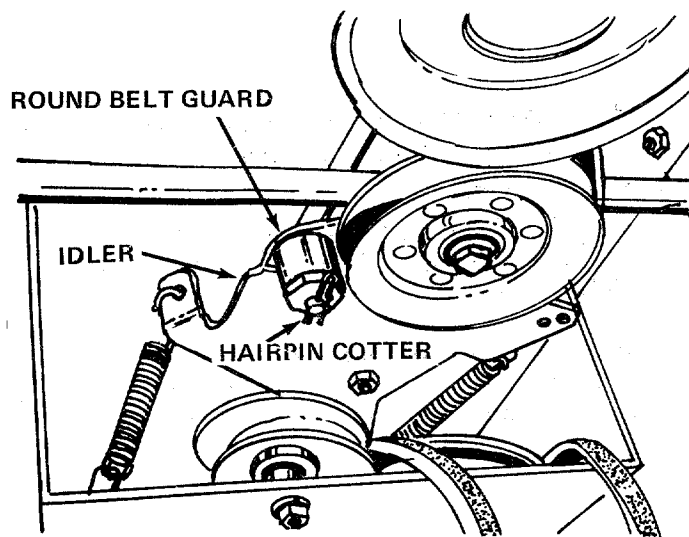

FIGURE 8
13. Remove the round belt guard from the idler on tractor by removing the hairpin cotter. See figure 8.